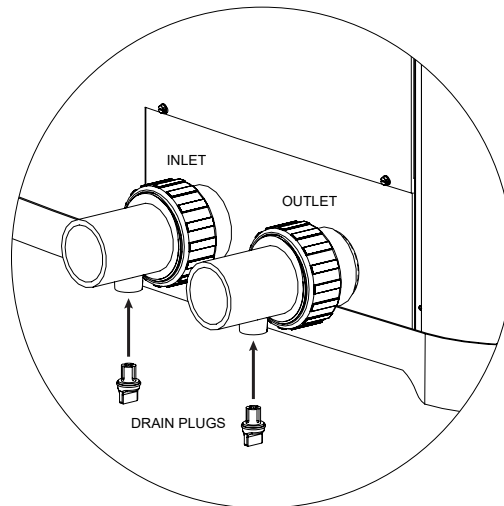

Figure 63. Drain Plug Locations
2. With the pool pump OFF, close the external shut-off valves and remove the drain plugs located in the inlet and outlet water unions to allow water to drain. See Figure 63.